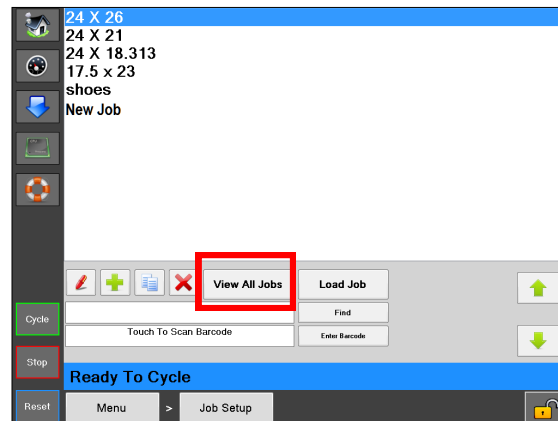

Figure 5-2D. Load Job Button.
7. Press the Load Job Button. This will send the highlighted job to the PLC and send the label, if applicable, to the printer. Figure 5-2D.